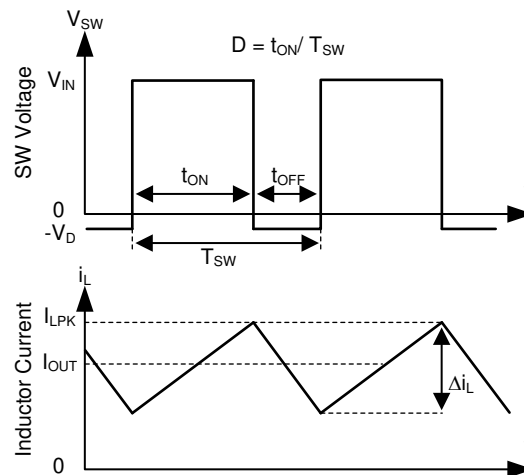

Figure 8-1. SW Node and Inductor Current Waveforms in Continuous Conduction Mode (CCM)
The following operating description of the LMR23630 refers to Section 8.2 and to the waveforms in Figure 8-1. The LMR23630 is a step-down synchronous buck regulator with integrated high-side (HS) and low-side (LS) switches (synchronous rectifier). The LMR23630 supplies a regulated output voltage by turning on the HS and LS NMOS switches with controlled duty cycle. During high-side switch ON-time, the SW pin voltage swings up to approximately V_{IN} , and the inductor current i_L increase with linear slope $(V_{IN} - V_{OUT}) / L$. When the HS switch is turned off by the control logic, the LS switch is turned on after an anti-shoot-through dead time. Inductor current discharges through the LS switch with a slope of $-V_{OUT} / L$. The control parameter of a buck converter is defined as duty cycle $D = t_{ON} / T_{SW}$, where t_{ON} is the high-side switch ON-time and T_{SW} is the switching period. The regulator control loop maintains a constant output voltage by adjusting the duty cycle D . In an ideal buck converter, where losses are ignored, D is proportional to the output voltage and inversely proportional to the input voltage: $D = V_{OUT} / V_{IN}$.